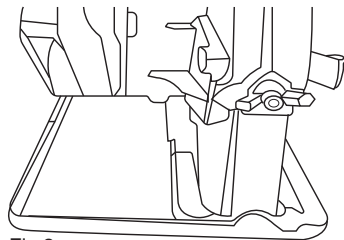

Fig 3
1. Loosen the clamping screw on the depth guide and move the base up or down. At the desired depth of cut, secure the base by tightening the clamping screw.(Fig 3) For cleanser, safer cuts, set cut depth so that no more than a blade tooth length projects below workpiece surface. Using proper cut depth helps to reduce potential for dangerous KICKBACKS which can cause personal injury.